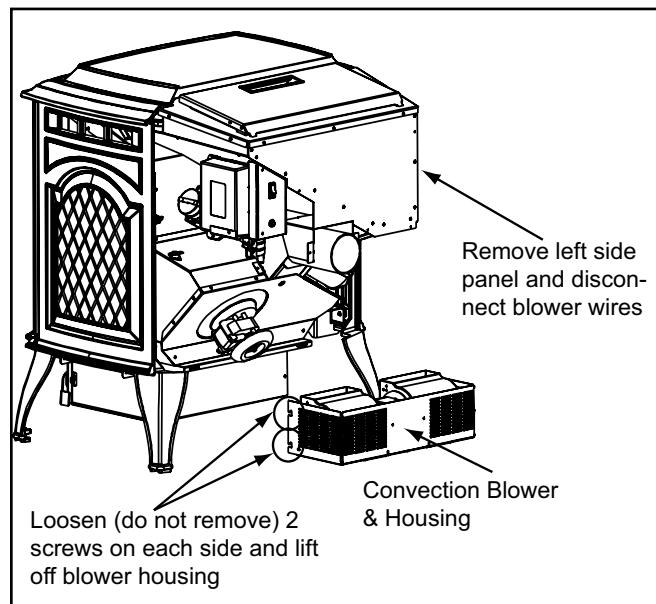

Figure 31.4
- There are 2 screws on each side of the housing. Loosen all 4 screws, but do not remove them. Lift the blower housing up slightly and slide towards you. **Figure 31.4.**